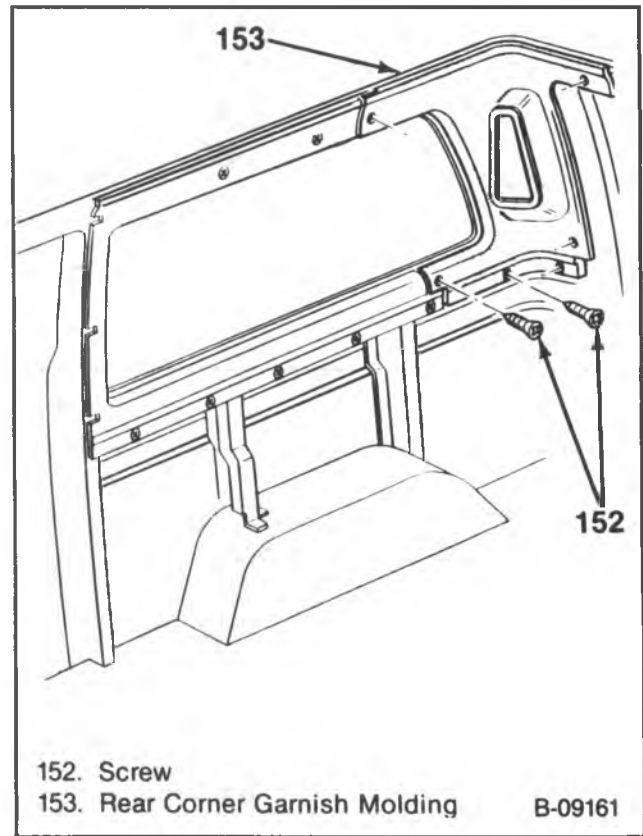

Figure 53 — Rear Corner Garnish Molding
10. Body rear corner garnish molding screws and the molding (figure 53).
5. Body rear corner garnish molding and screws (figure 53).